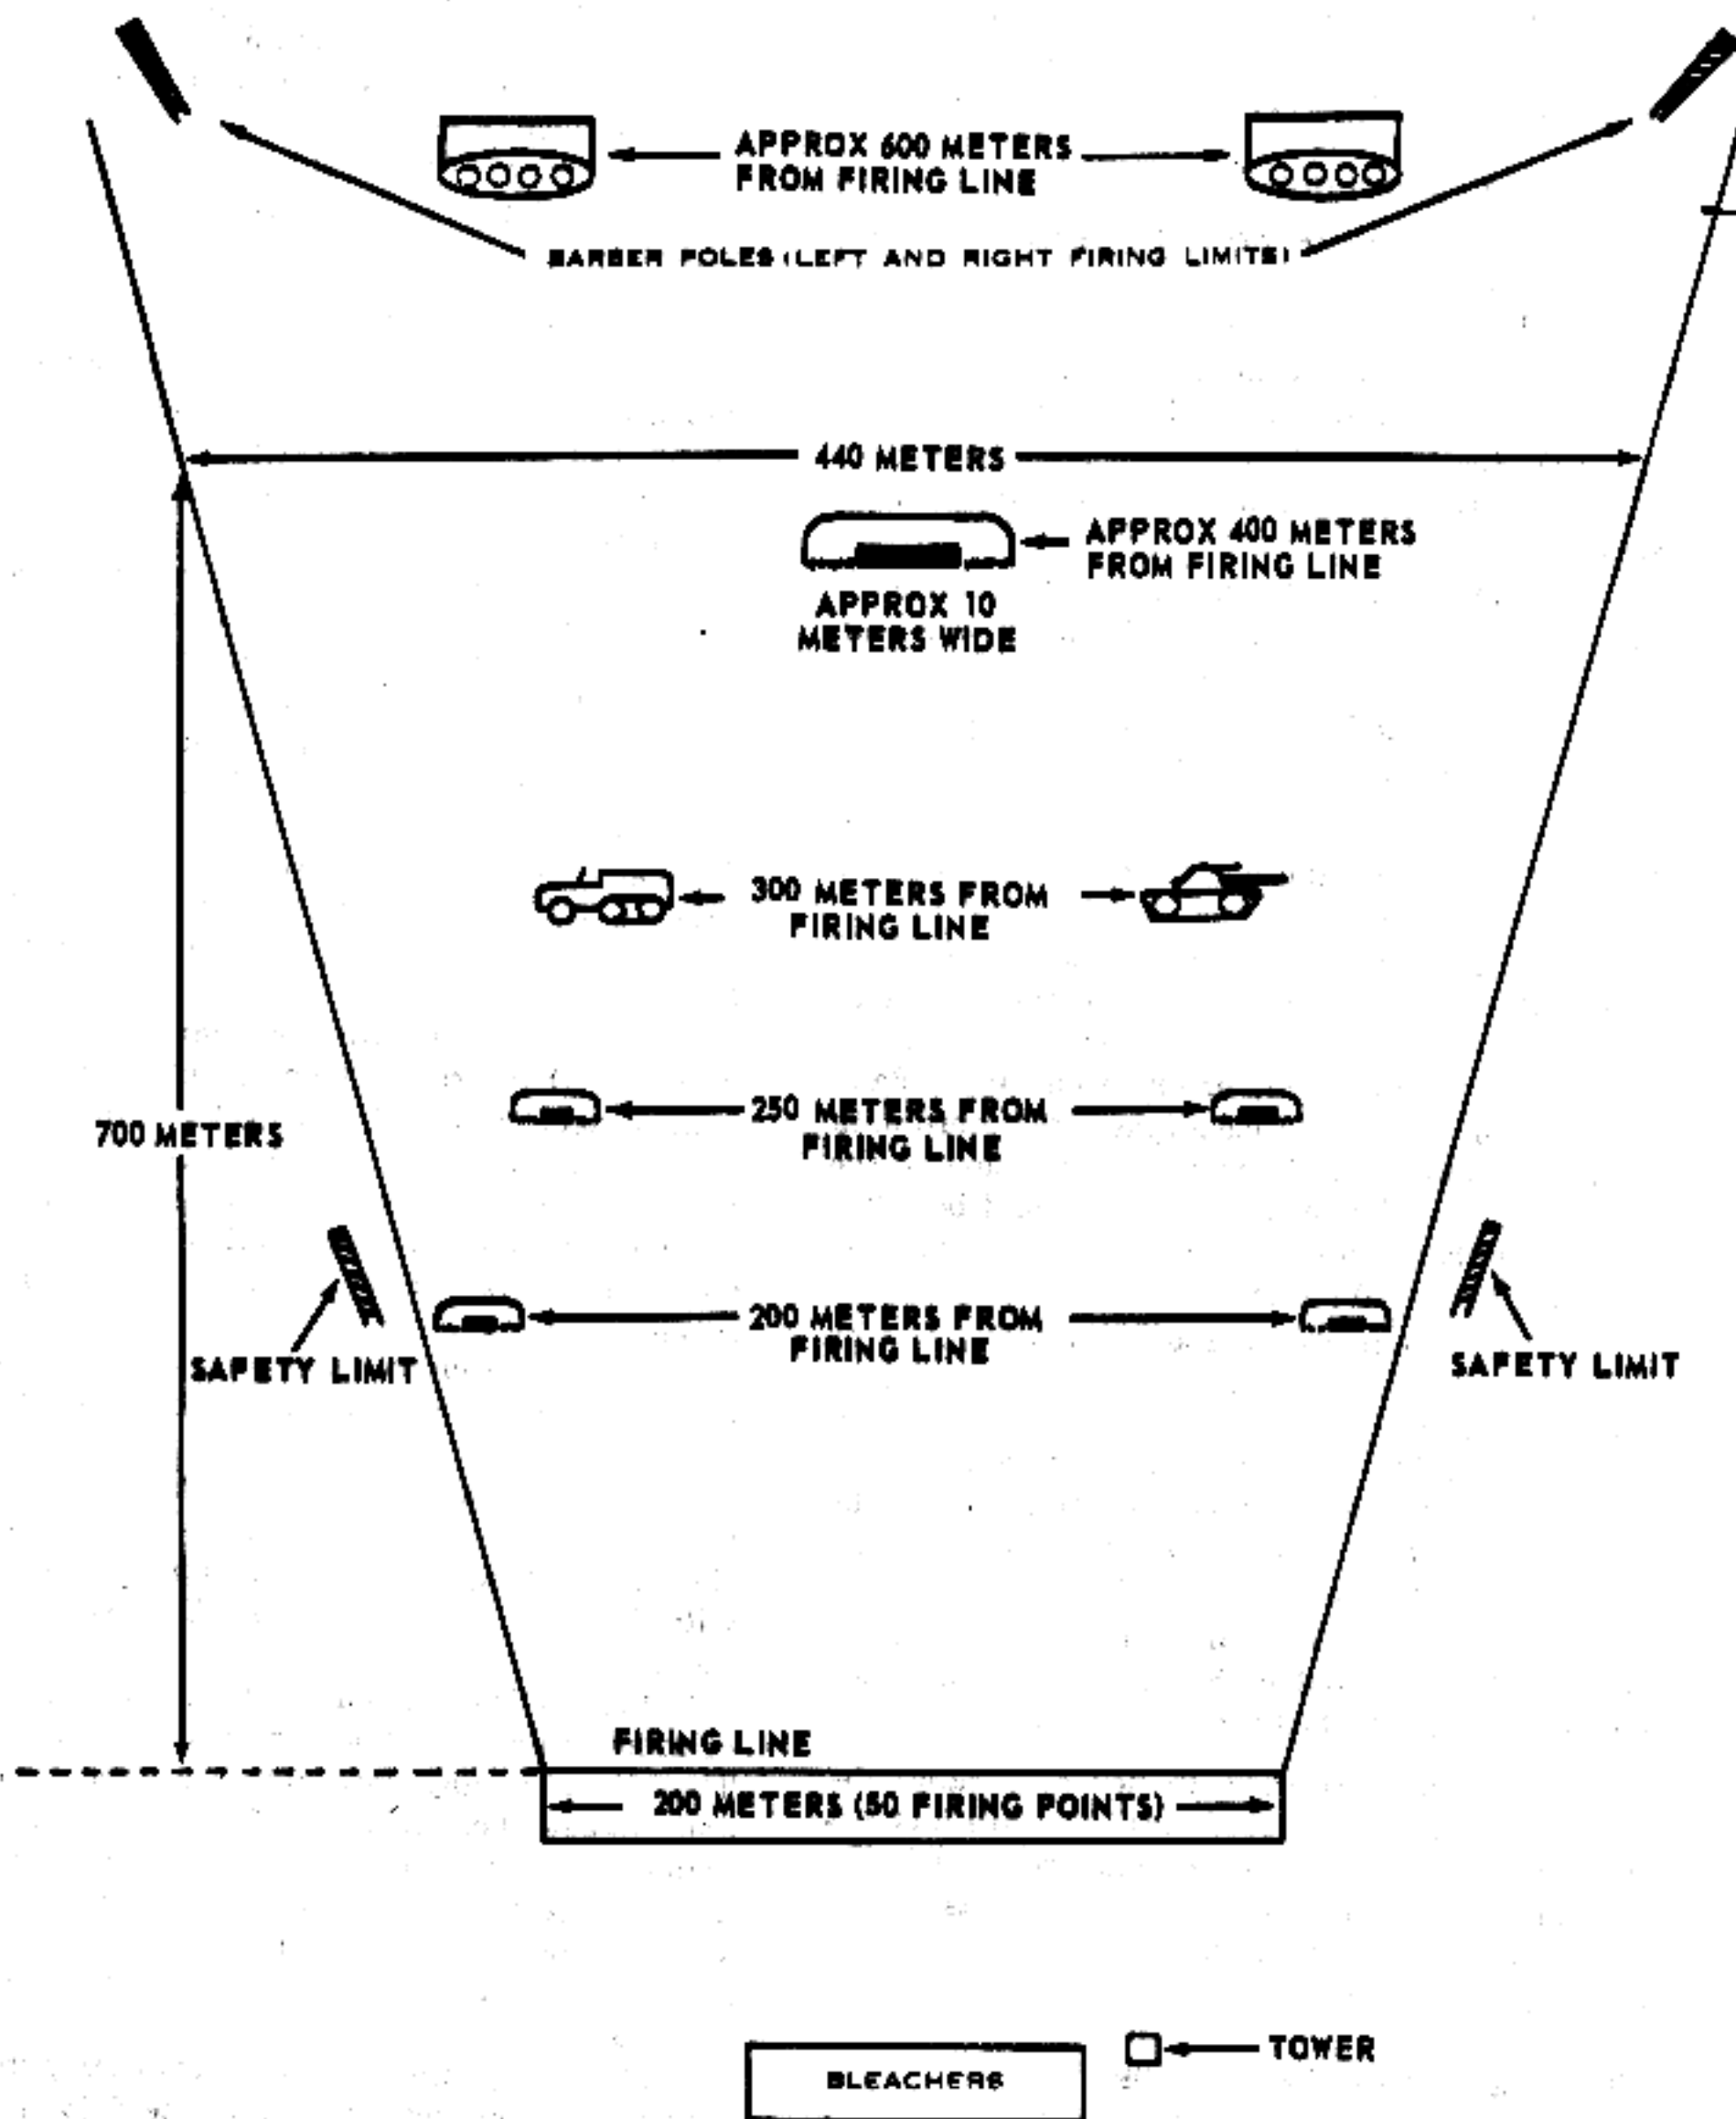

Figure 165. Predetermined fire field ranges.
*a. General Characteristics.* Figure 165 shows a schematic diagram and the dimensions of a predetermined fire field firing range.
(1) A tower or elevated platform from which the OIC can observe firing is desirable.
(2) Seating facilities must be available to seat the entire unit for a conference and demonstration.
(3) The range should be constructed on a flat, open piece of terrain which allows one man to control the firing of all weapons.
(4) A firing line consisting of 50 points is desirable, allowing at least 4 meters per point.
*b. Target Area.* In figure 165, everything in front of the firing line out to the range limits is considered target area.
(1) The target area should be at least 700 meters deep and 440 meters wide at the 500 meter range. It should contain at least three targets which will permit engagement from either flank of the firing line and cause gunners to record data to the left and right of the zero graduation on the traversing bar. The center target should be a linear target that requires about 20 mils of traverse (approximately 10 meters wide).
(2) Hard objects such as salvage vehicles or dirt-filled gasoline drums may be positioned to represent targets. Earth mounds may also represent targets. The construction of targets in this manner assists the gunner in determining the effectiveness of his fire by enabling him to see his tracers or hear his projectiles hit the target.
(3) The lateral firing limits of the target area must be marked with safety fan poles. Red lights must be attached for night firing.